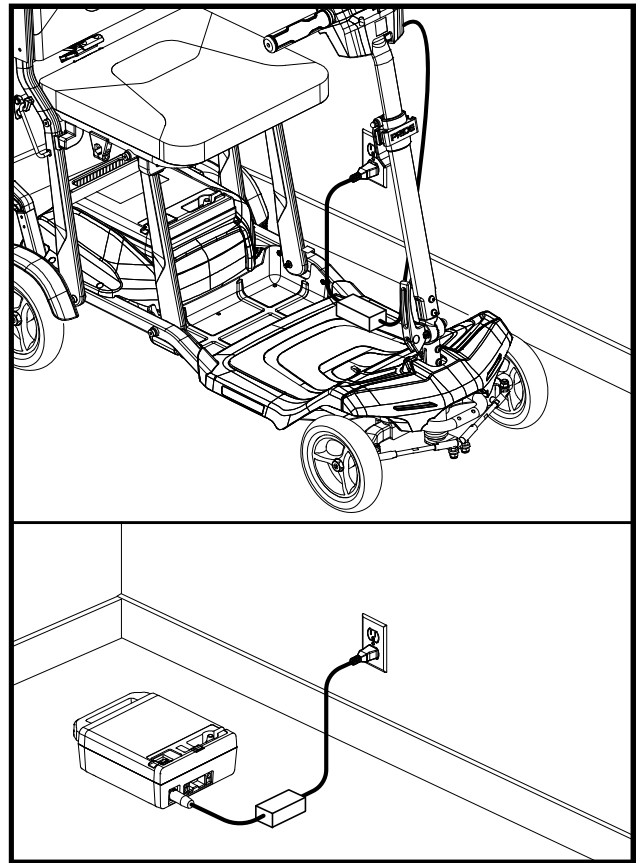

Figure 9. Battery Charging
1. Place your scooter next to an electrical outlet. See figure 9.
5. Plug the charger power cord into the wall electrical outlet. See figure 9.
6. Wait two (2) minutes. Two (2) red LED lights on the charger signify that charging has begun.